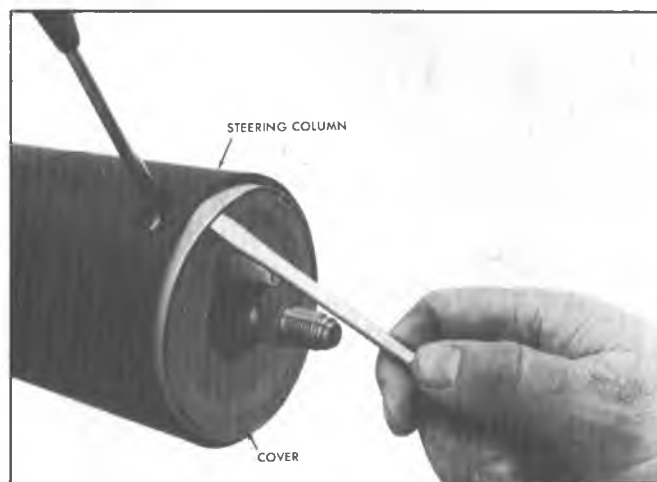

Fig. 3--Removing Lock Plate Cover
The service procedure for the removal and installation of the directional signal switch is identical to the 1974 vehicle with the exception of the lock plate cover as shown in Figure 3.
3. Position screwdriver blade into cover slot (fig. 3). Pry up and out to free cover from lock plate.